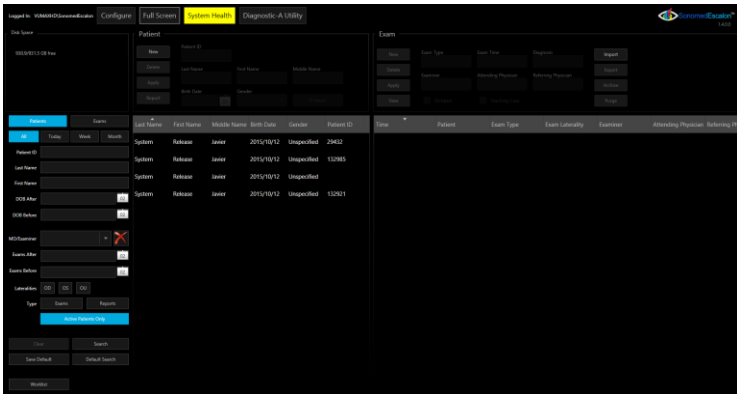

Fig. 7- Patient Database Screen
- ③ **Patient Database Screen:** Upon launching the application the ‘Patient Database’ screen (Fig. 7) will display. Here you can add a new patient or find previously performed exams.